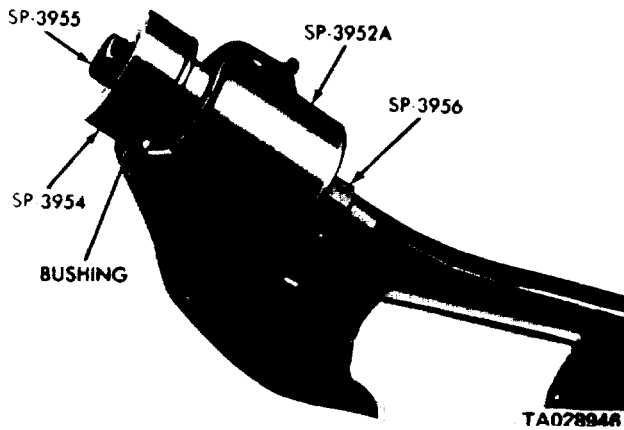

Figure 7-7. Installing Upper Control Arm Bushing.
(1) Position the flange end of the new bushing in tool C-3962. Support the control arm squarely, and press the bushings into the control arm (from outside) until the tapered portion seats on the arm (figure 7-7).